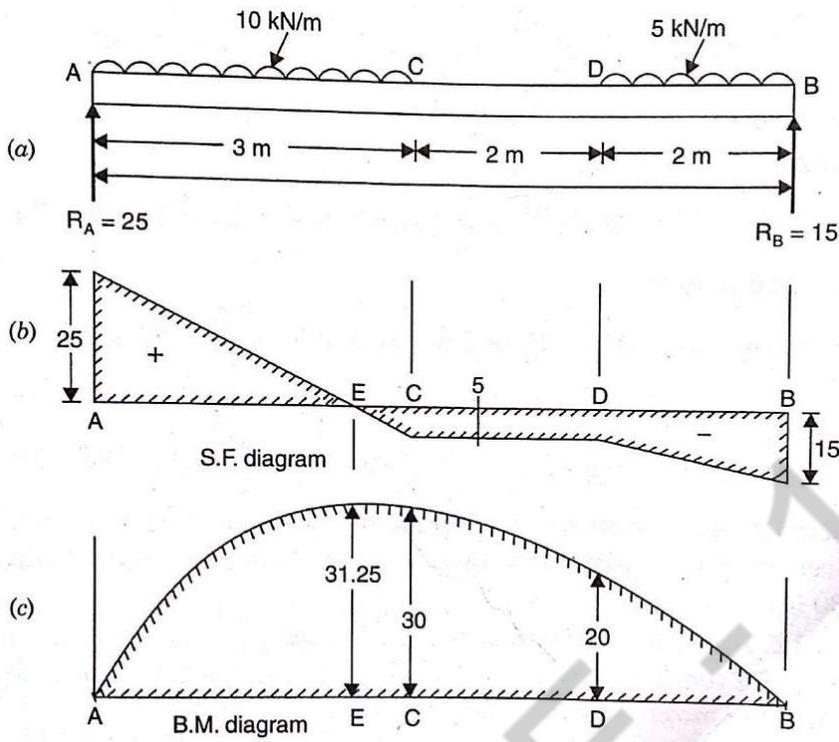

Fig. 2
9) Draw shear force diagram and bending moment diagram for the beam given in fig.2 (May/June 2017)